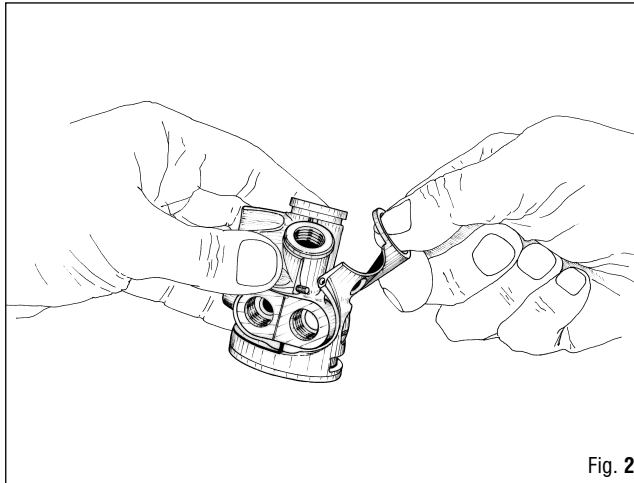

Fig. 2
3. REMOVE THE RING (LARGER DIAMETER) OF THE RUBBER LOWER CASING (177) FROM ITS SEAT IN THE 1ST STAGE BODY (FIG. 2) RELEASING THE PLASTIC TOP CASING (178).
1. CORRECTLY FIT THE PLASTIC TOP CASING (178) ON THE 1ST STAGE BODY.
2. CORRECTLY POSITION THE RING (LARGER DIAMETER) OF THE RUBBER BOTTOM CASING (177) ON THE CONNECTORS OF THE PLASTIC TOP CASING (178) (Fig. 2).
3. MATCH UP THE SEATS ON THE BOTTOM CASING (177) WITH THE THREADED PINS ON THE TOP CASING (178)